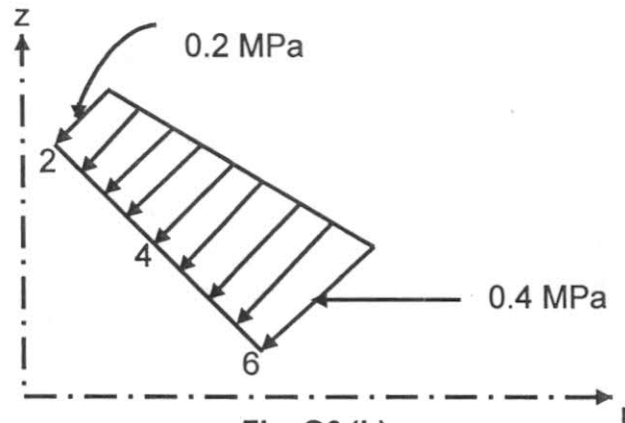

Fig. Q6 (b).
- b) An axisymmetric body with a linearly distributed load on the conical surfaces is shown in Fig. Q6 (b). Determine the equivalent point loads at nodes 6 and 4, the coordinate of the points 6 are (60, 40) mm point 4 are (40, 55) mm and point 2 are (20, 70) mm.